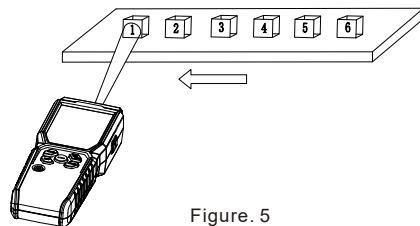

Figure 5
2. Non-Contact---REV (Figure 5)